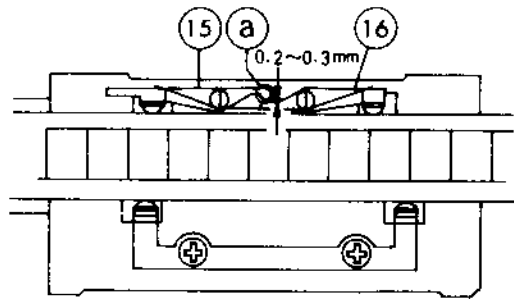

Fig. 29
4. Install 15, 16 and 17 to 14, then set the film as shown in Fig. 29, and adjust by bending "a" section with the adjusting screw driver (P028) for pressing the film sidewise, so that the space between 15 and 16 is 0.2 - 0.3 mm.